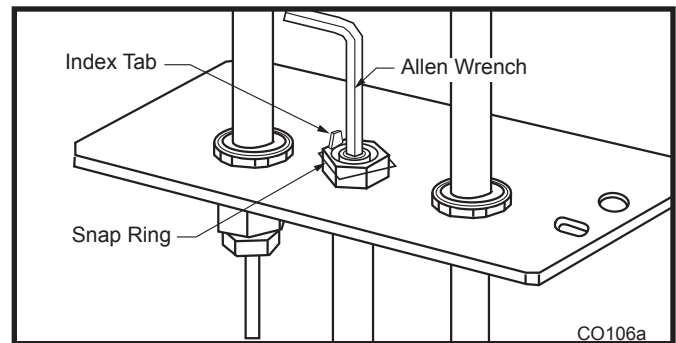

Fig. 29 Remove pilot orifice.
8. Remove pilot orifice with Allen wrench. (Fig. 29)